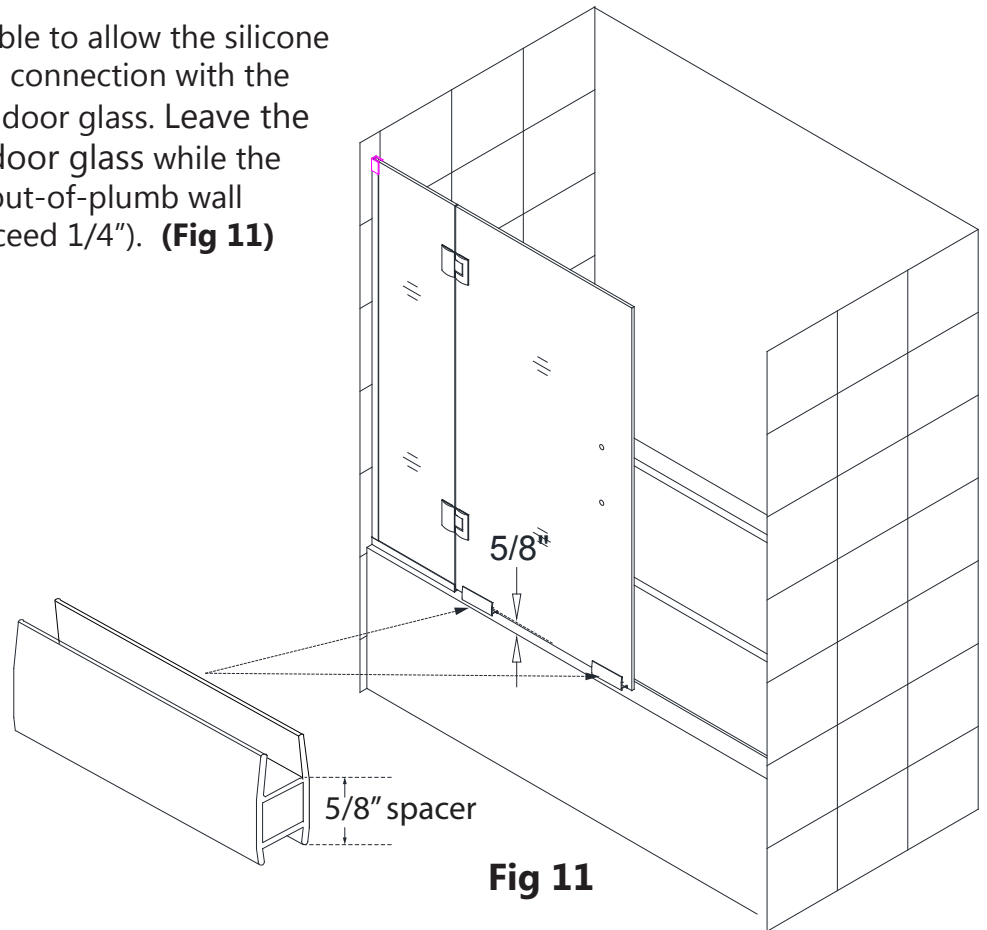

Fig 11
**** NOTE:** It is strongly advisable to allow the silicone to set on the hinge panel glass connection with the U-channel before hanging the door glass. Leave the shims in place beneath the door glass while the silicone cures, especially if an out-of-plumb wall condition is present (not to exceed 1/4"). **(Fig 11)**